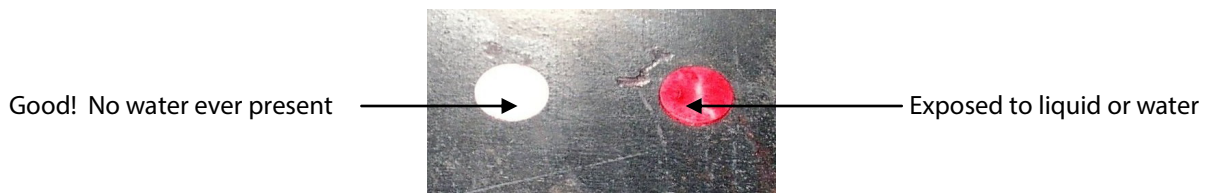

Figure 6
- Visually check cabinets for signs of moisture. Check shelf's water dots (see Figure 6). Water dots are placed on every shelf and door panel to indicate if moisture is present or has got inside the unit. The Dots are originally white in color but will turn red when water drops are absorbed.